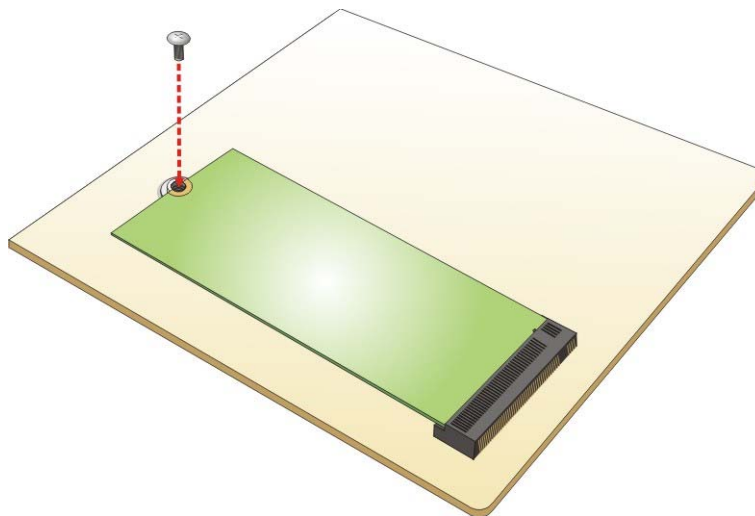

Figure 3-8: Securing the M.2 Module
Step 4: Secure the M.2 module with the previously removed retention screw (Figure 3-8).